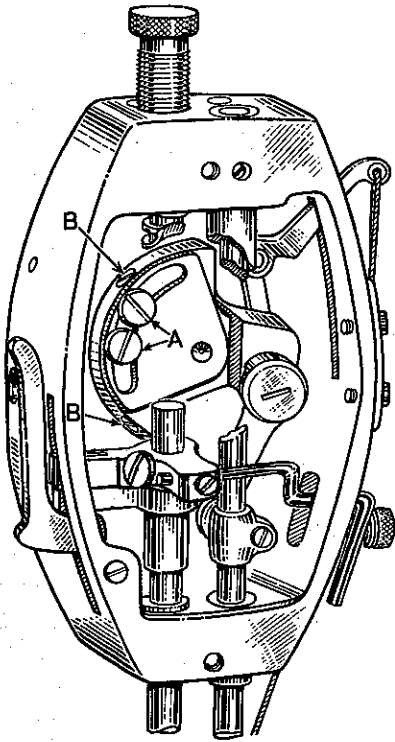

Fig. 17
Set the stitch regulator for the longest stitch. Set the feed dog to show the depth of a full tooth above the throat plate. Turn handwheel in operating direction until the bottom of the descending needle eye is even with the top surface of the throat plate. When the needle bar is in this position, the top of the feed dog teeth should be even with the top surface of the throat plate. A simple method of advancing or retarding the feed timing is provided in the head of the machine. Loosen the two screws holding the counterweight to the segment plate (A, Fig. 17) and the two screws (B) holding the counterweight to the main shaft. Hold the handwheel and turn the counterweight in a clockwise direction to retard the feed, and in a counterclockwise direction to advance the feed. Be sure to re-tighten all four screws securely, making certain that the counterweight does not slip. Any time the feed timing is changed, it is necessary to retime the hook.